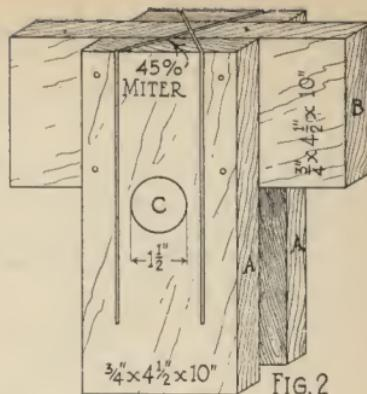

FIG. 2
**A** HANDY miter box for cutting the moulding on head casing and side casings is made of two pieces  $1\frac{1}{8} \times 5 \times 8$  inches (A), and one piece (B)  $1\frac{1}{8} \times 1\frac{1}{2}$  inches nailed between and flush on top, with  $1\frac{1}{2}$  inch hole (C) bored through the three pieces and a 1-inch hole bored down through the piece B. These two holes allow you to see your mark. E represents the saw cut square across the top and at a 45 degree angle down. By reversing the block, you have a right or left hand cut.
Figure 2 shows another box made for cutting a miter on a moulded base. It is made of two pieces of  $\frac{3}{4} \times 4\frac{1}{2} \times 10$  inch oak (A) and one piece of  $\frac{3}{4} \times 4\frac{1}{2} \times 10$  inch W. P. (B) nailed together as shown. A  $1\frac{1}{2}$  inch hole (C) is bored, as shown, so you can see your mark when this is placed on top of the base board.